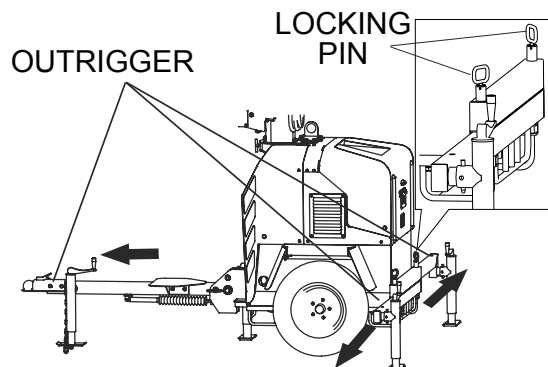

Figure 6. Extending Outriggers
3. As soon as the locking pin clears the travel position hole, release pin and continue sliding out the outrigger. When outrigger is in the extended position, make sure pin snaps into the outrigger locking hole (Figure 6).